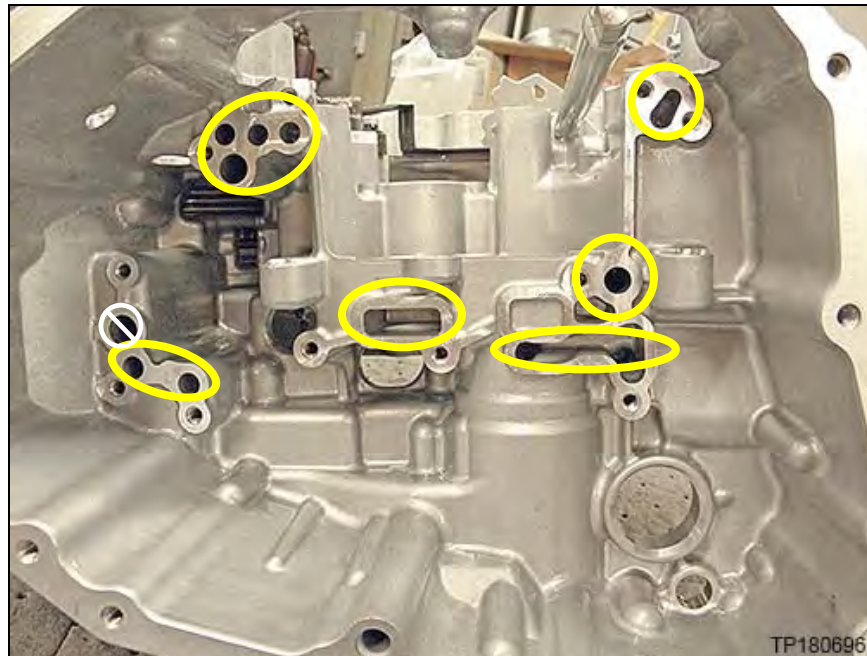
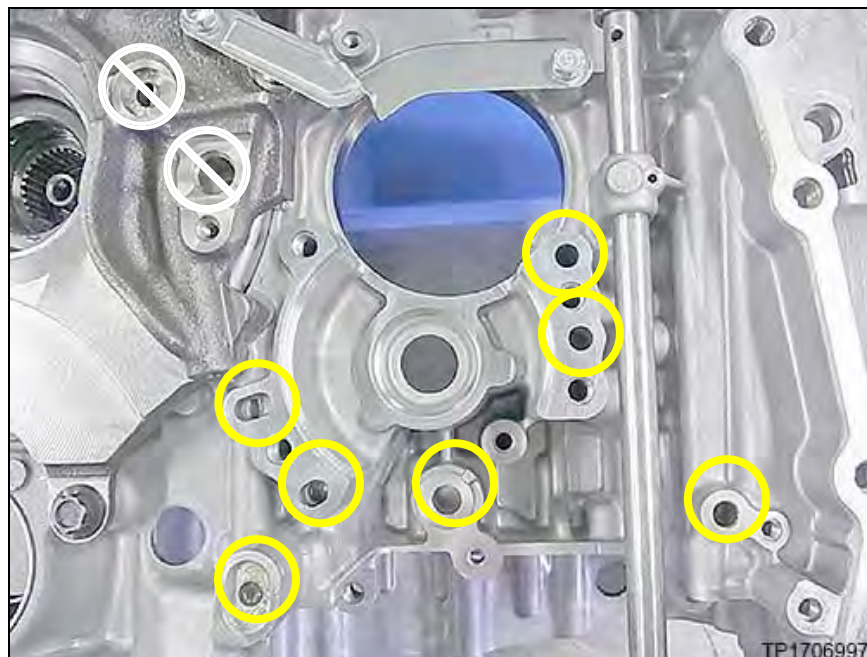

Figure 2L
Figure 3L
2. Spray brake cleaner into each oil passage, indicated in yellow, of the CVT case where shown in Figure 2L and Figure 3L, until the fluid runs clear for 5 seconds.